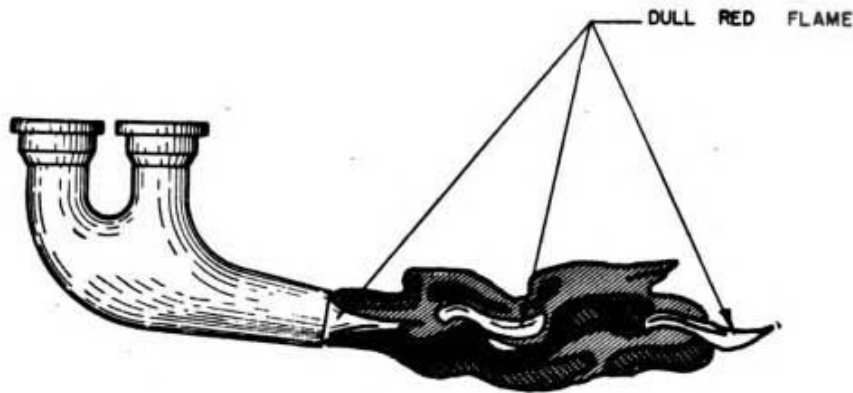

Figure 14. Excessively rich mixture indicated by exhaust flame.
(1) Excessively rich mixtures (ratios less than 11 to 1) will not produce full power because proper combustion will not take place. They will result in excessive fuel consumption and more or less sluggish engine operation, depending upon the extent of richness. This condition is indicated by heavy black smoke and red flame issuing from the exhaust ports. (See fig. 14.)